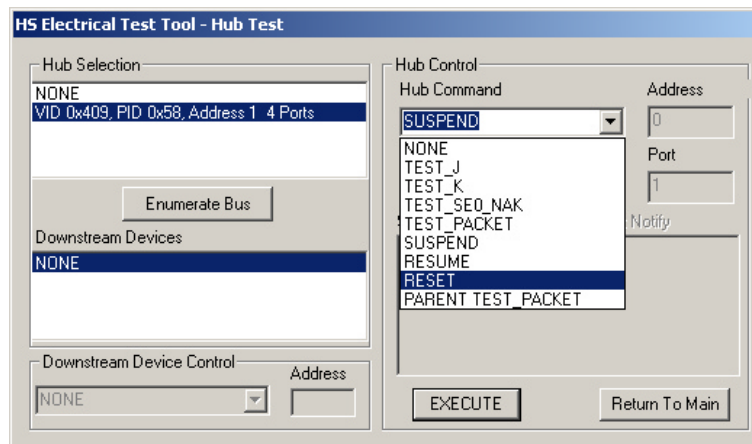

Figure 51. Hub Reset From Suspend
- a. On the HS Electrical Test Tool – Hub Test menu, select RESET from the Hub Command drop down menu. (Figure 51)